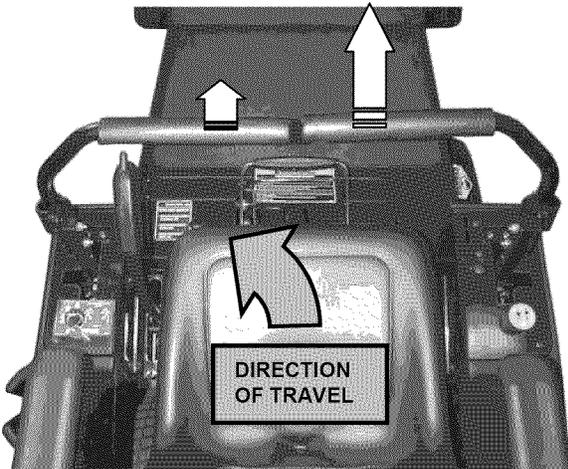

FIGURE 2.6
1. To turn left, slowly ease back on the left lever while keeping or increasing pressure on the right lever. See Figure 2.6. The more you ease off on the left lever and/or push on the right lever, the tighter the turn.